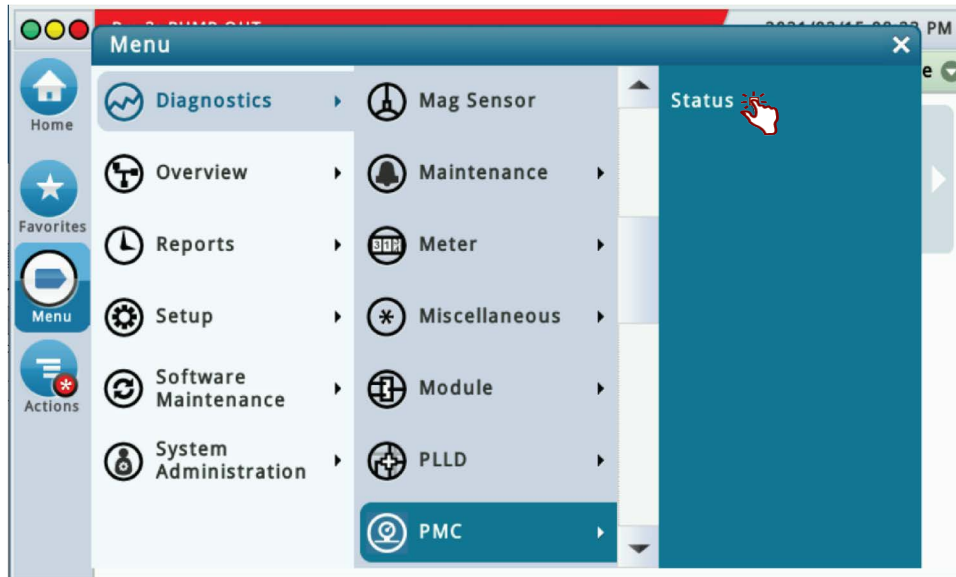
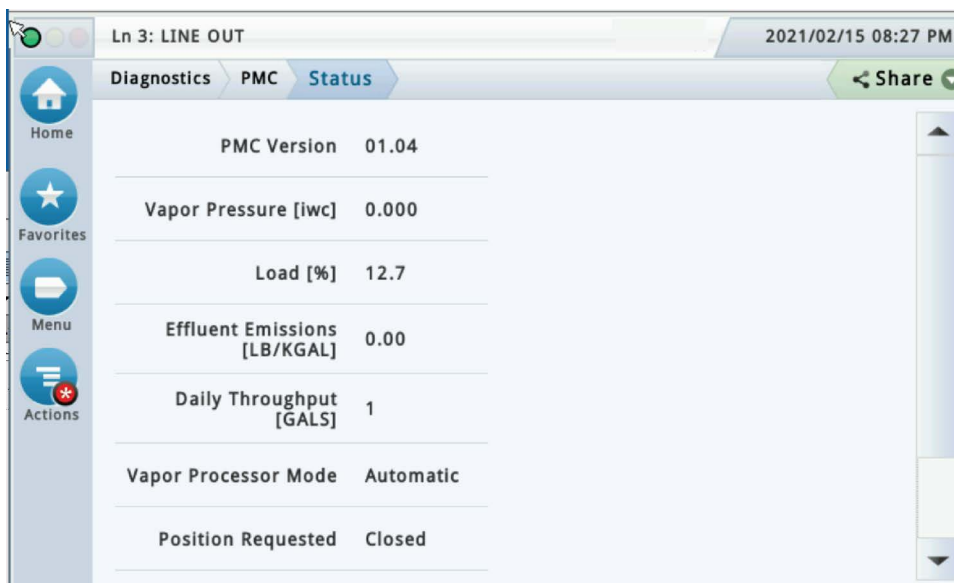

Figure 21. Accessing PMC Status Diagnostic Screen
Figure 22. PMC Status Diagnostic Screen (Scroll Down to View Additional Fields)
1. Select **Menu>Diagnostics>PMC>Status** (Figure 21) to open the PMC Status screen (Figure 22).
With the Vapor Polisher Mode in Automatic, touch the **Actions** button to switch the PMC Mode to Manual (see Figure 22), or when in Manual Mode, touch the **Actions** button to set the vapor valve Open or Closed and /or touch 'Set VP Mode: Automatic' to exit Manual Mode.